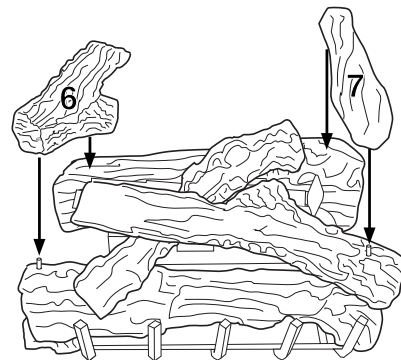

Figure 28 - Installing Logs #6 and #7, Model CD42M-A
6. Place log #6 (left log) on left pin of front log (#2) and smooth surface of rear log (#3). Make sure it is seated properly (see Figure 28).
7. Place log #7 (right log) on right pin of top log (#5). Make sure it is seated properly (see Figure 28).